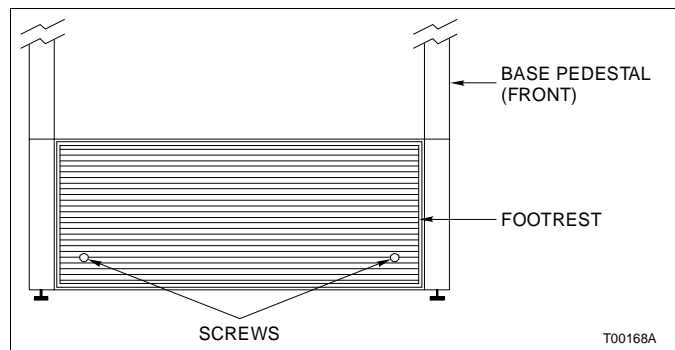

Figure PR1-1. Footrest Removal
1. Use the M8 Allen wrench to remove the two screws that secure the footrest to the lower front of the base pedestal (Fig. PR1-1).